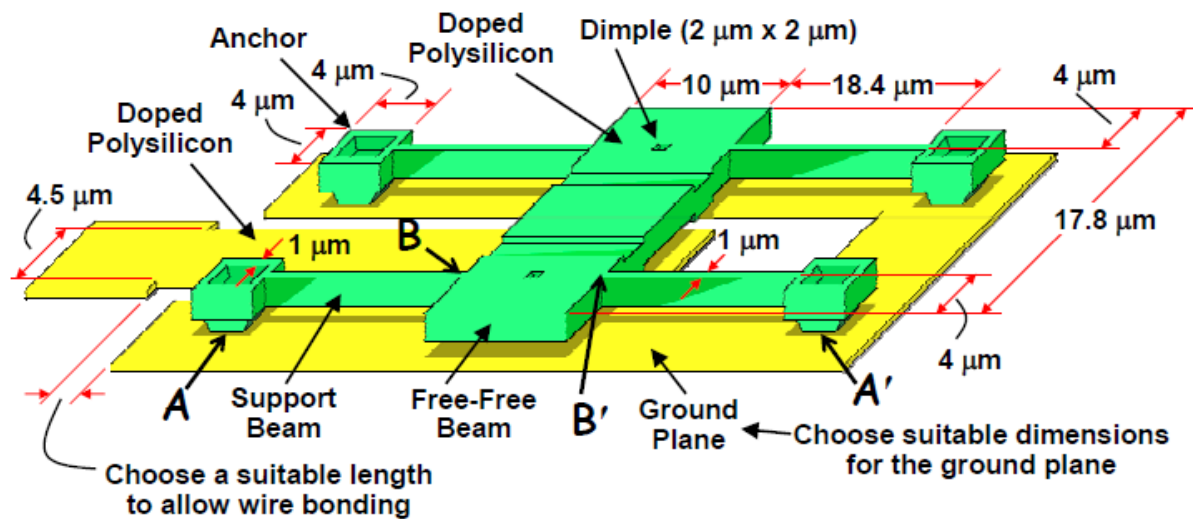

Fig. PS5.1
- The following pages comprise a surface micromachining process flow for a free-free micromechanical beam with perspective view shown below in Fig. PS5.1. This process traveler spares no details, as even equipment names are given, as are diagnostic steps used to verify certain process steps. Furnace program names (for equipment in the Berkeley Marvell Nanolab) are also given. These details are included to present a more realistic situation and to give an example of what a valid process traveler ought to look like. In doing this problem, you must sift through the extraneous information and concentrate on the recipe information, i.e. temperatures, times, doses etc.